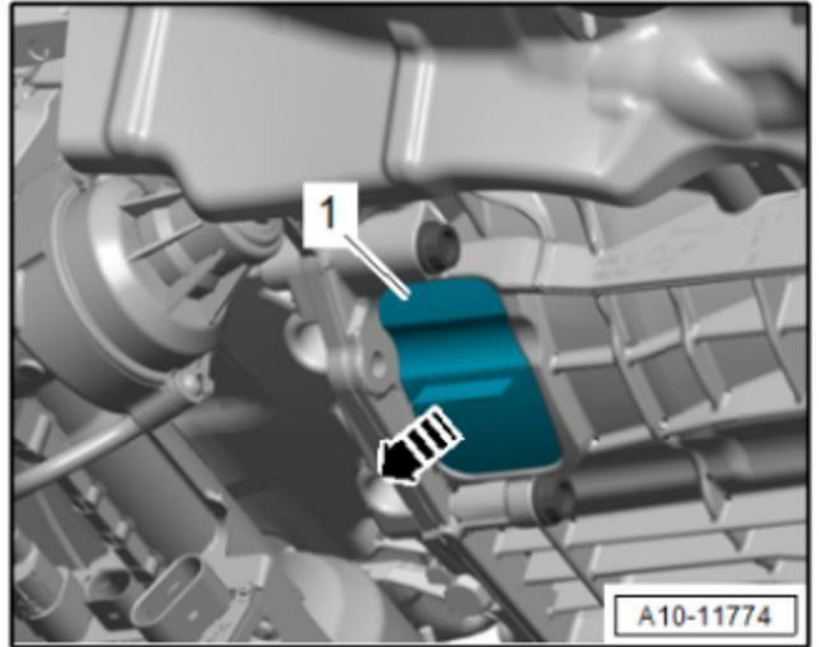

Figure 9. Lower bellhousing access cover.
11. Reinstall the lower bellhousing cover (Figure 9) and the noise dampening pan.